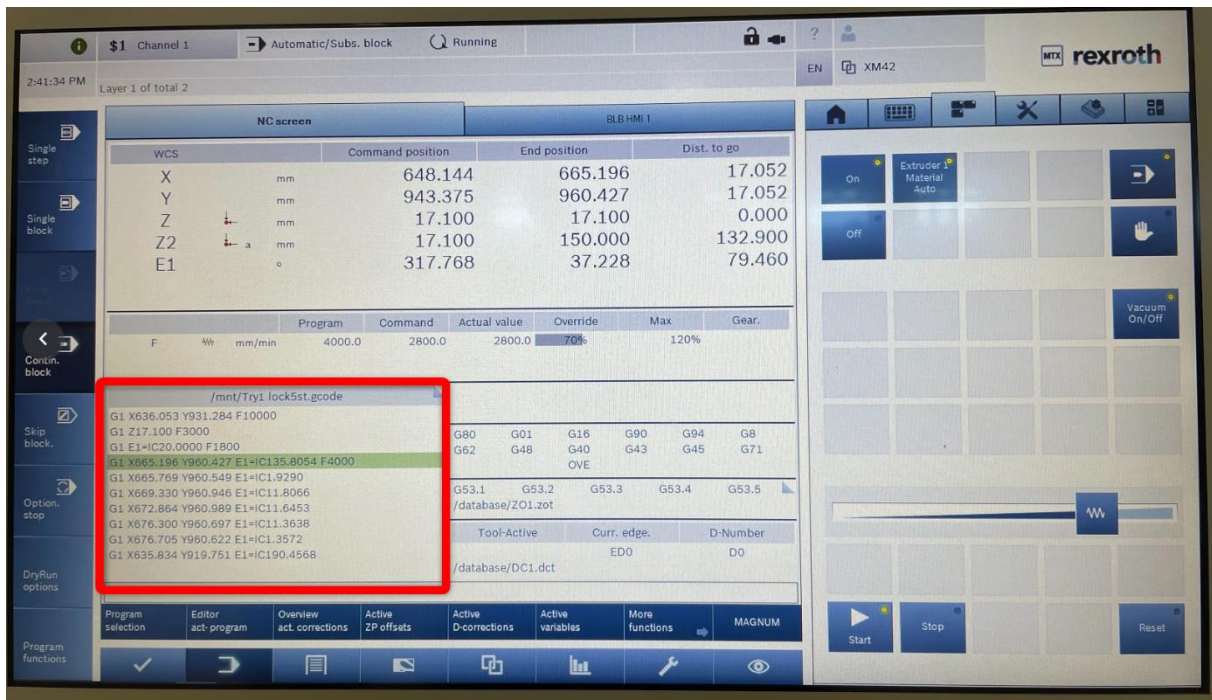

Figure 31
- Check if a program is active. This can be done by checking if the program box is empty or if a program is selected (fig 31).